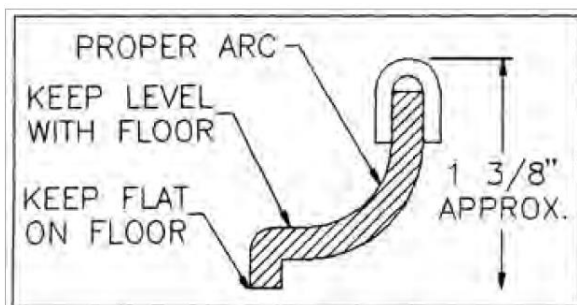

Figure 1: Correct squeegee profile
To adjust the squeegee, the three (3) bolts which attach the squeegee will also adjust the squeegee height. Turn the bolts clockwise (to raise) or counter clockwise (to lower). A 1/2 turn should be enough. Be sure jam nuts are snug. Check performance and adjust accordingly. *See Figure 1 below.*